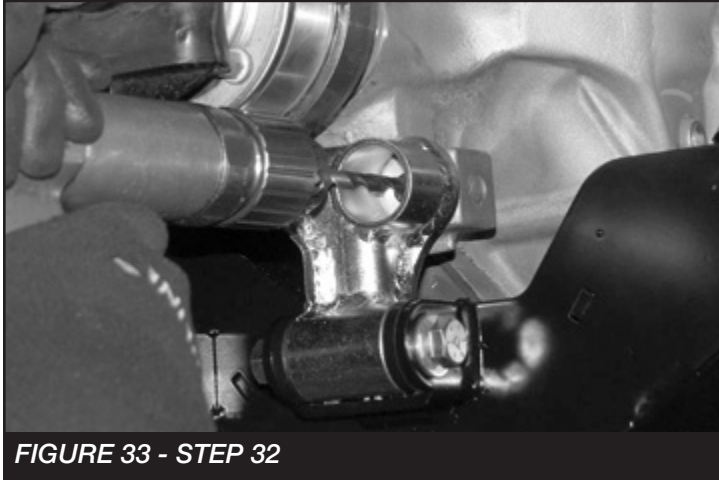

FIGURE 33 - STEP 32
32. Use the rear bracket as a drill guide to drill a ½" hole through the block on the rear of the diff. **SEE FIGURE 33**